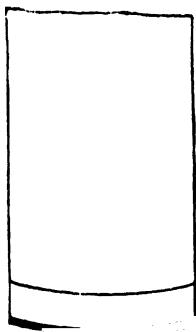

Fig. 68.
**Trying Plane**.—Fig. 68 shows the shape of the cutting iron of the Jack Plane.